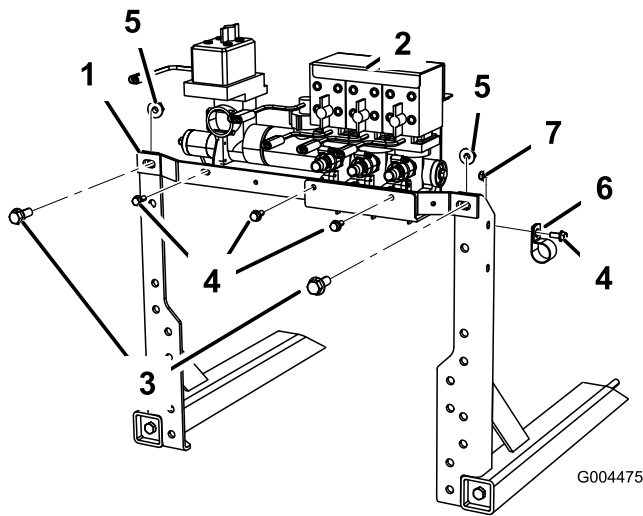

Figure 9
1. Install new cross bar to the valve uprights using the fasteners removed previously (Figure 9).
2. Secure valve assembly to the bar using 3 bolts (5/16 x 3/4 inch) (Figure 9).
3. Install the hose clamp to right boom upright (Figure 9).
1. Locate the center boom supply hose coming from the front of the machine and route the hose through the hose r-clamp installed on the right boom upright (Figure 9). and down into the hole with the grommet in the center boom assembly frame. Use a hose clamp to secure it to the hose barb in the center boom assembly.